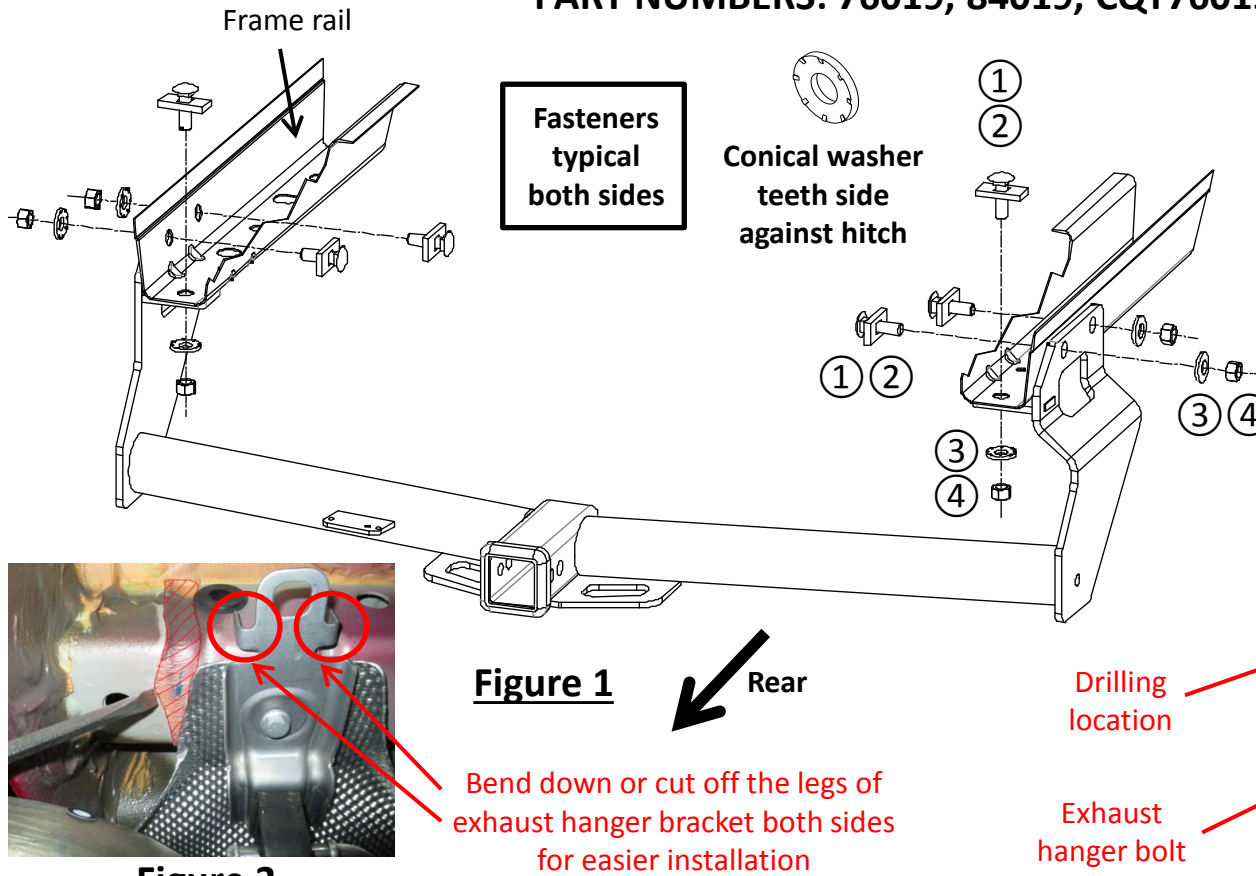

Figure 3
- Lowering exhaust hanger and clearing caulk** - use 13 mm socket to remove (1) bolt from exhaust hanger each side and lower the muffler temporarily, see **Figure 2**. Use a support to keep muffler from getting damaged. Use a knife to remove caulk near mounting holes and slightly bend the heat shield edge down each side, see **Figure 3**.
4. Lowering exhaust hanger and clearing caulk - use 13 mm socket to remove (1) bolt from exhaust hanger each side and lower the muffler temporarily. Use a support to keep muffler from getting damaged. Use a knife to remove caulk near mounting holes and slightly bend the heat shield edge down each side, see **Figure 3**.
4. Utiliser une douille 13 mm pour retirer un (1) boulon de la ferrure du support d'échappement de chaque côté, voir **Figure 2**. Gratter les longerons pour enlever le calfeutrant à proximité des trous de fixation, voir **Figure 3**.